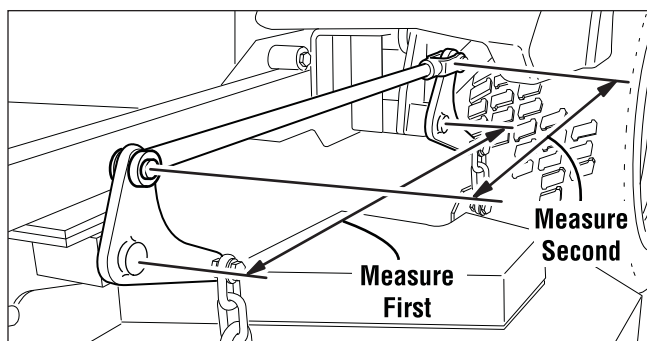

Figure 33. Check Lift Rod Timing
2. To check the lift rod timing, measure and record the distance between the lift pivots and the rod pivots. Repeat for the other side of the unit. See Figure 33.